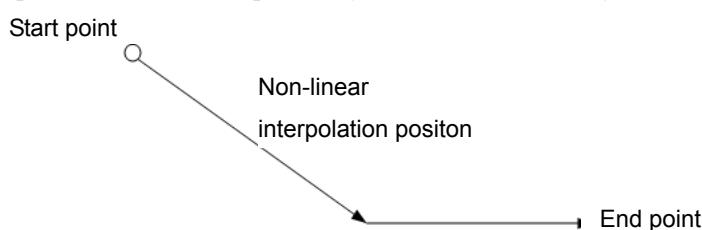

Fig. 3-1
**Function:** X, Y and Z axes simultaneously move to end points from start at their rapid traverse rates. See Fig. 3-1.